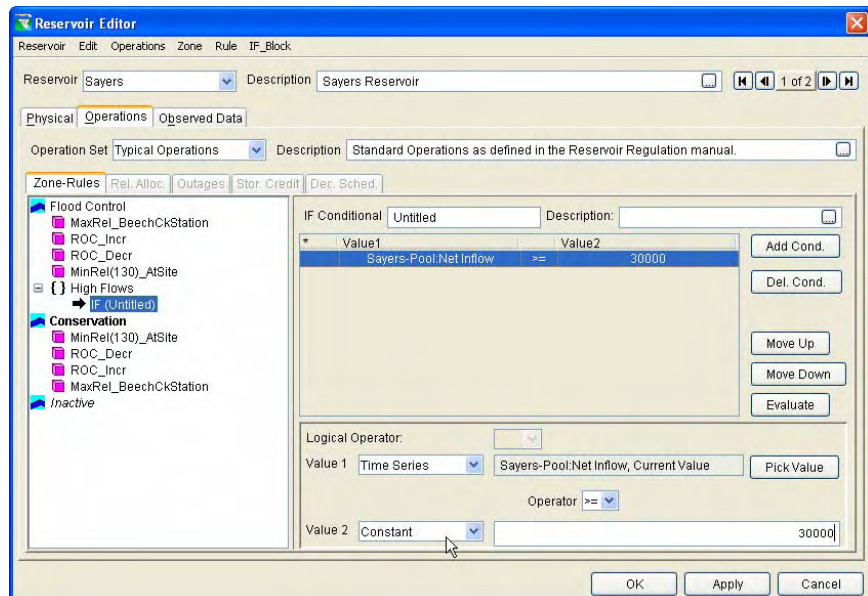

Figure 11.67 Conditional Test Editor – Select Type and Define Value 2
- For the selected value type, set the corresponding value. For example, as shown in Figure 11.67, **Value 1** is selected as a **Time Series** type with a corresponding *model variable* value of current reservoir net inflow, and **Value 2** is selected as a **Constant** type with a corresponding value of 30,000.